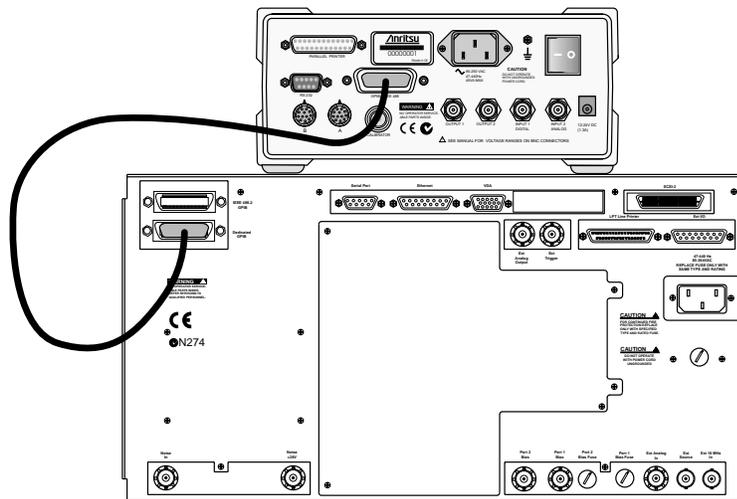

Figure 3-1. ML2430A Series Power Meter GPIB connection to the MS462XC Vector Network Measurement System
Step 1. Connect a GPIB cable between the power meter GPIB connector and the MS462XC dedicated GPIB connector, as shown in Figure 3-1.